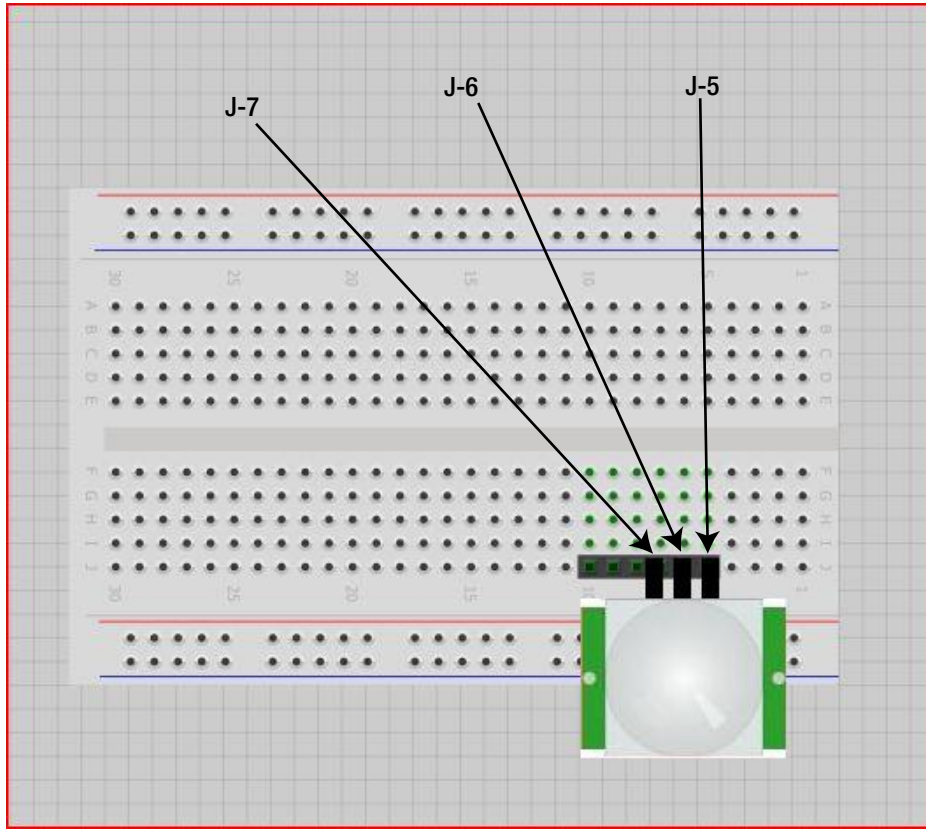

Figure 19-5. Attach the PIR sensor to the 6-pin-female-stackable-header
3. Next, insert the PIR sensor into the far right pins of the 6-pin-female-stackable-header. This corresponds to J5, J6, and J7. Be sure the Out pin is inserted into J5, as shown in Figure 19-5. The PIR sensor you purchased may be difficult to fit on the 6-pin-female-stackable-header. What you can do is bend (gently) the capacitors that are in the way just enough to allow the PIR sensors header fit into the 6-pin-female-stackable-header.